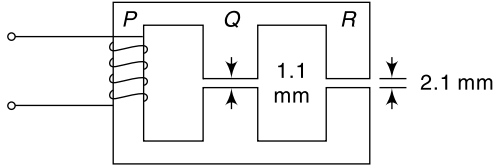

Fig. 3.24 Magnetic circuit of Ex. 3.38
3.38 In the magnetic circuit shown in Fig. 3.24, the cross-sectional area of limbs Q and R are 0.01 m^2 and 0.02 m^2 respectively and the lengths of air-gap are 1.1 mm and 2.1 mm respectively, are cut in the limbs Q and R . If the magnetic medium can be assumed to have infinite permeability and the flux in the limb is 1.5 Wb , calculate the flux in the limb P .